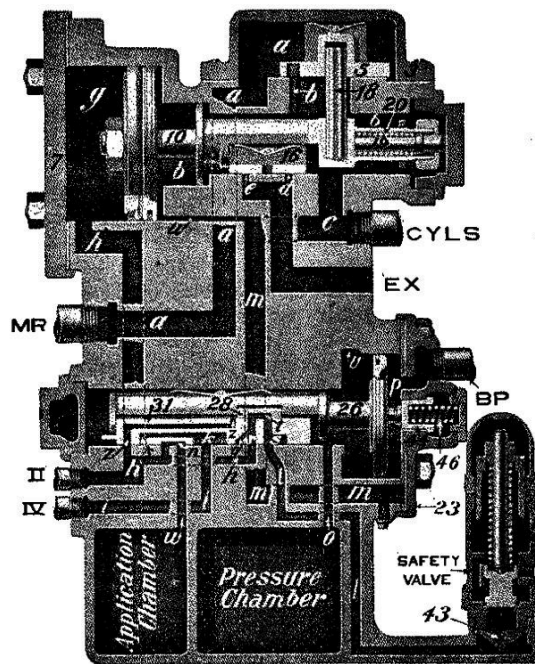
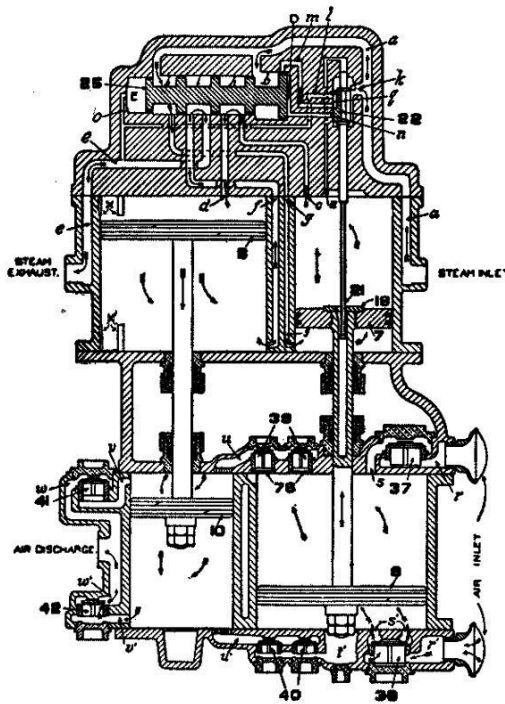

Fig. 9: Automatic Service.
Fig. 10: Service Lap.
continued movement of the piston moves the valve to service position, in which port "z" connects with port "h" in the seat of the valve, as shown in Fig. 9. As the equalizing slide valve chamber is at all times connected to the pressure chamber, air can now flow from this chamber to both the application cylinder and chamber through ports "z" and "h", cavity "n" and port "w" until the pressure on the left or pressure chamber side of the equalizing piston 26 becomes slightly less than that in the brake pipe, when the piston and graduating valve will move to the left until the shoulder on the piston stem strikes the slide valve; this movement of the graduating valve closes the service port "z", thus closing the communication between the pressure chamber and application chamber and cylinder, also closing port "l" which leads to the safety valve. The distributing valve is now said to be in service lap position. (See Fig. 10.)
A. Pressure forming in this cylinder will force the piston to the right; the piston in moving will carry with it the exhaust valve 16, closing the exhaust ports "e" and "d", at the same time moving the application valve 5, opening the supply port "b", allowing main reservoir air from chamber "a" to flow through ports "b" and "C" to the connection marked "CYLS", and on to the different brake cylinders of the locomotive until the pressure in the brake cylinders and at the right of the application piston becomes slightly greater than that in chamber "g" when the application piston and valve will move back to lap position as shown in Figures 9 and 10.